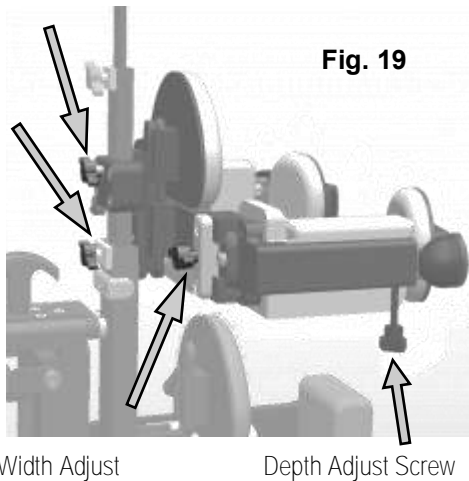

Fig. 19
- Adjustment can be done by either sliding the extension tube up or down within its mounting tube, or by sliding the Lateral Chest System mount up or down on the extension tube. You can use a combination of both to achieve the desired height. Once you have them where you want them tighten the height adjustment screws (fig. 19).
- Slide pads inward, making contact with the body in the desired upper body posture and tighten width adjustment screws (fig. 19).
- Adjust the depth of the front support pads to hold the upper body firmly in the desired position (fig. 19).